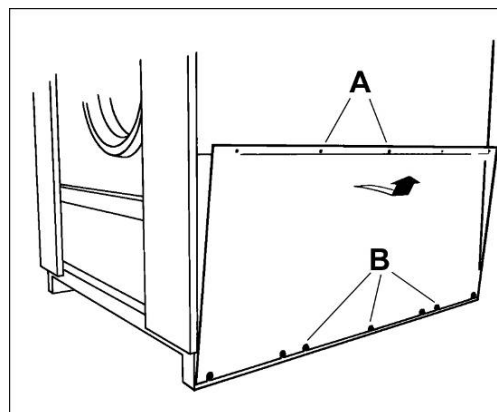

fig. 8
- Remove the screws securing the side guards at the top. Loosen the screws holding the lower guard and separate them from the machine (fig. 8/A,B).
Diameter of the B manifold: refer to table on section 2.4. and fig. 8.